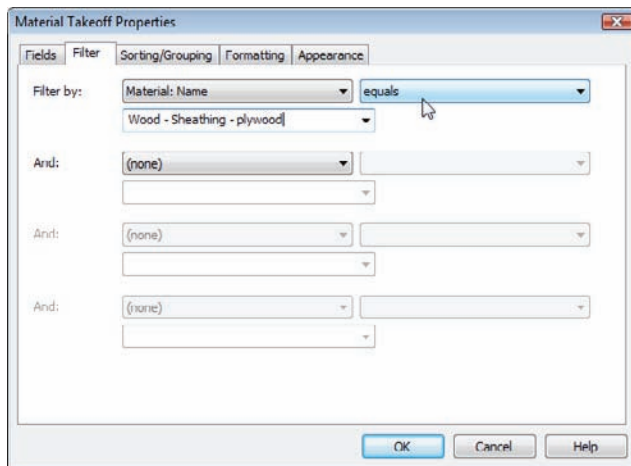

FIGURE 11.32 Filtering based on material
7. In the field below Material: Name, select Wood - Sheathing - Plywood (see Figure 11.32).